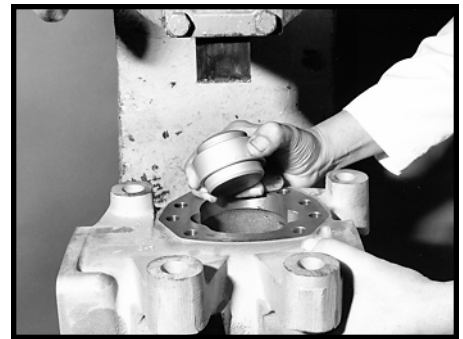

Figure 85
41. The housing bearing assembly (20) or race should only be removed if you determine that the bearing must be replaced after following inspection procedures 4, 5 and 6 on page 32. Remove the bearing in the following manner: Use bearing mandrel (special tool) J26743 to apply pressure from the side cover opening and press the bearing out through the trunnion cover opening. SEE FIGURE 85. Maintain a good, square contact between the housing and press base to avoid damaging the housing bearing bore. Remove retaining ring (21) from bearing. Discard bearing.